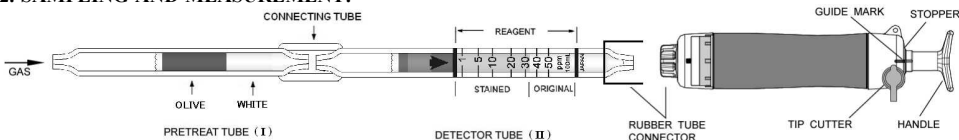

Fig.1
- ① Break both ends of the detector tube (II) and pretreat tube (I), and connect each end of the detector tube and pretreat tube with connecting tube as shown in Fig.1.
- ② Insert the detector tube into the aspirating pump securely as shown in Fig.1. (Arrow mark shall point to the pump.)
- ③ Align the guide marks on the shaft and stopper of the aspirating pump.
- ④ Pull pump handle at a full stroke until it locks and wait for 1.5 minutes or until the completion of sampling is confirmed with the flow indicator of the pump. (See descriptions about the flow indicator in the instruction manual of the pump.)
- ⑤ On completion of sampling, read the scale at the maximum point of the stained layer.